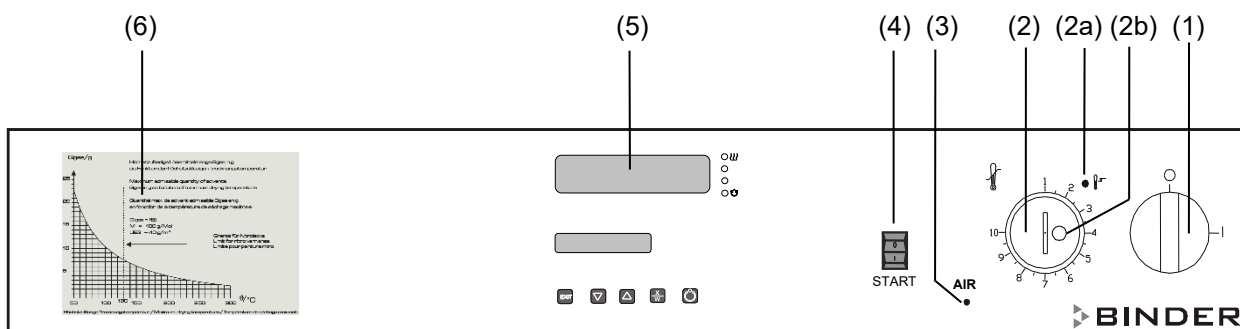

Figure 5: Control panel of FDL 115 standard chamber
A flow monitor in the upper part of the device (pressure differential switch) monitors the stream of exhaust air. In the event of failure, the monitoring system turns the heater off immediately and shows this status with a visual signal: red indicator light "AIR" (3) (see Figure 5).